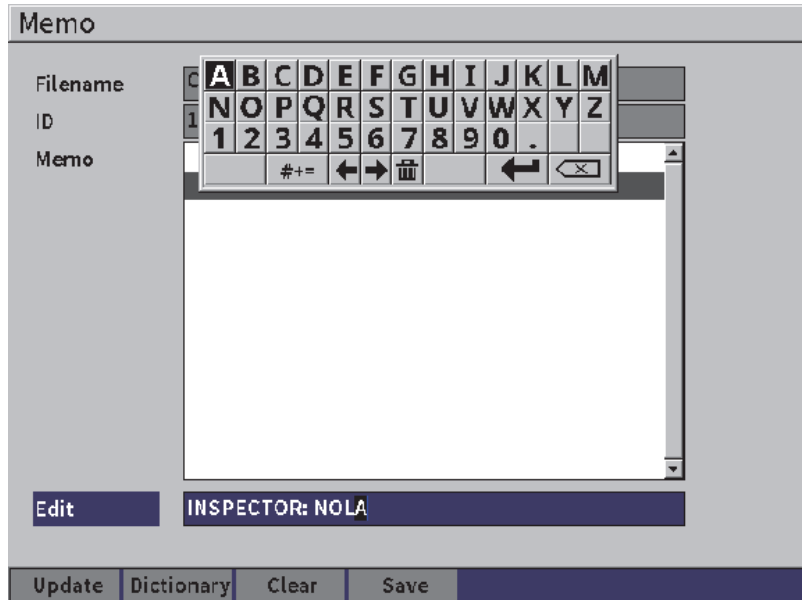

Figure 9-23 Memo Dictionary page — Inserted info
7. Enter characters (up to 32) using the virtual keypad, adjustment knob, and the Enter key (see Figure 9-23 on page 127).